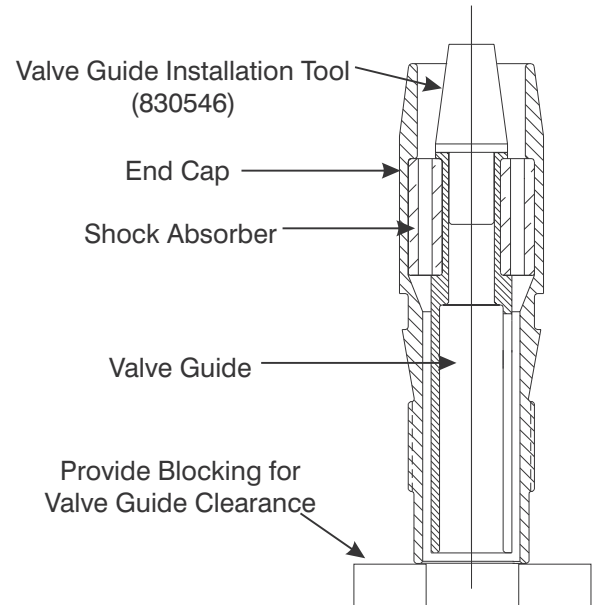

Figure 8-22. End Cap in Arbor Press
1. With threaded end down, place the End Cap in the arbor press as shown in Figure 8-22.
- Support the edges of the End Cap (16) with standard blocking.